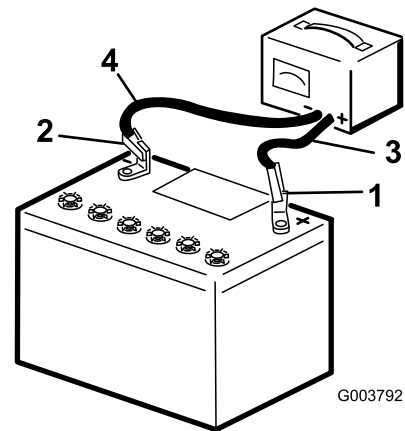

Figure 60
2. Connect the positive lead of the battery charger to the positive-battery post (Figure 60).
3. Connect the negative lead of the battery charger to the negative-battery post (Figure 60).
- When the battery is fully charged, unplug the charger from the electrical source, then disconnect the charger leads from the battery posts (Figure 60).